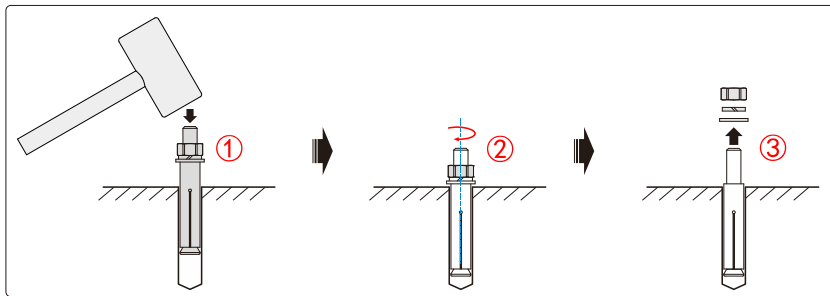

Figure3-19 Install expansion bolts
Step 3 Install the expansion bolts, as shown in Figure3-19.